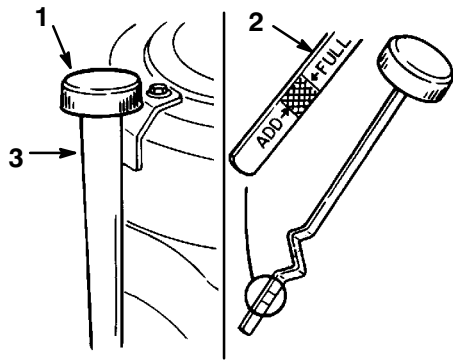

Figure 34
3. Clean around the oil dipstick (Fig. 34) so dirt cannot fall into the filler hole and damage the engine.
4. Unscrew the oil dipstick and wipe the metal end clean (Fig. 34).
5. Screw the oil dipstick fully onto the filler tube (Fig. 34). Unscrew the dipstick again and look at the metal end. If oil level is low, slowly pour only enough oil into the filler tube to raise the level to the “FULL” mark. Tighten the dipstick.
7. Slowly pour approximately 80% of the specified amount of oil into the filler tube (Fig. 34). Now check the oil level; refer to Checking Oil Level, page 33. Slowly add additional oil to bring to FULL mark on dipstick.